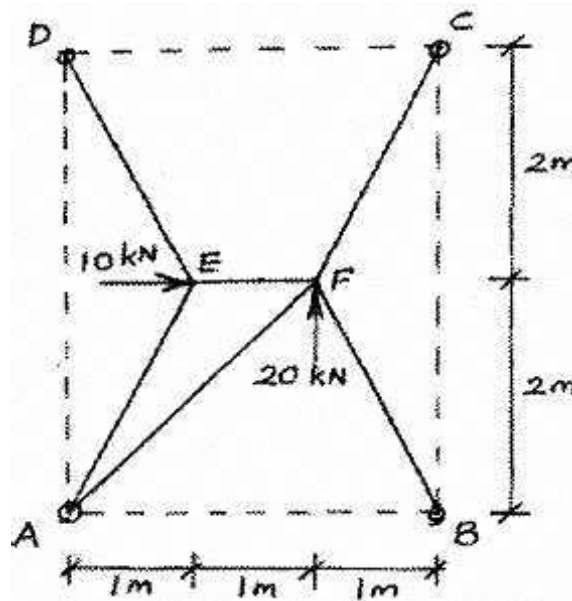

Figure 1:
3. The space frame shown in Figure 1 is pinned to supports A, B, C and D in a horizontal plane. The member EF is horizontal and 2m above the level of the supports. The loads at the joints E and F act in a horizontal plane. Find the forces in the members of the frame using the method of tension coefficients. [16]